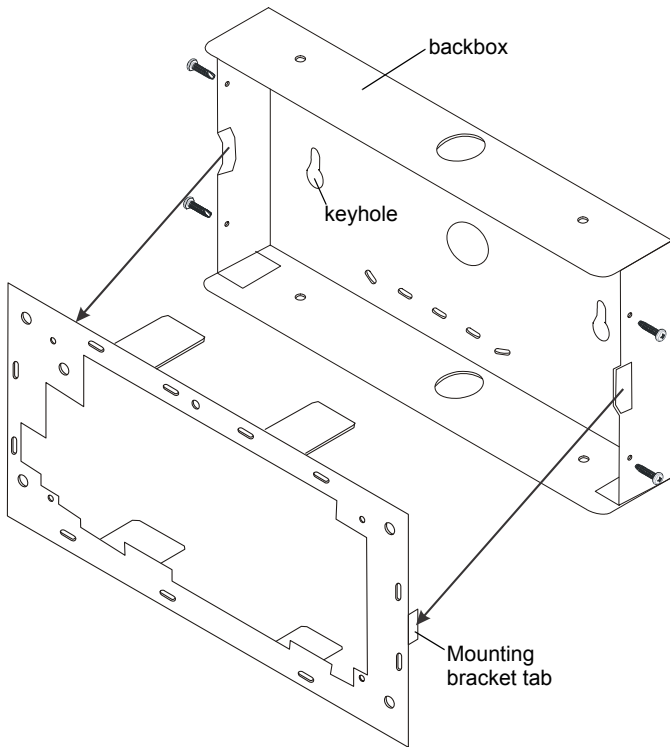

Figure 3 Mounting Bracket and Backbox
1. Remove the four (4) screws securing the metal cover to the module's backbox, remove the cover with clear plastic screen and set aside.
2. Remove the rubber display/label holder, ANN-(R)LED module and mounting bracket as a single unit by sliding the two tabs on the side of the mounting bracket, away from the backbox (refer to Figure 3).